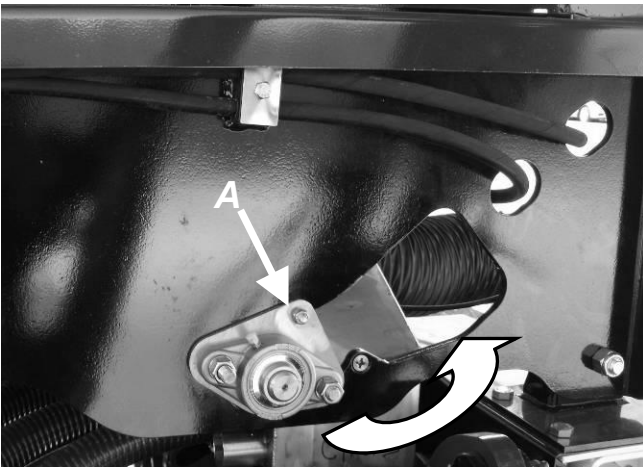

Figure 27
2. Untighten the bolts that hold the bearings housing on each side of the hopper. [1 bolt on each side, figure 27, **A**].